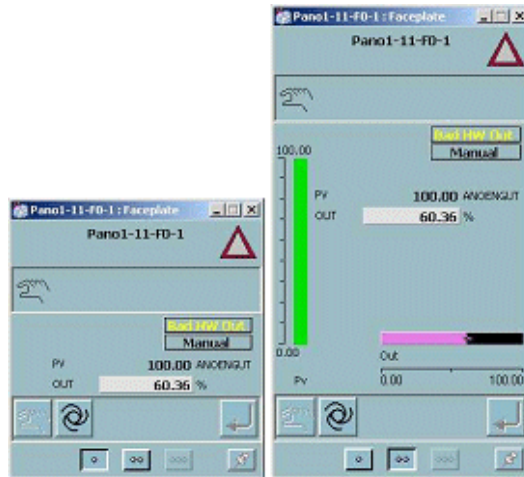

Figure 185. ANO Module
**Analog Output (ANO).** Analog output faceplates are representations of 800xA for DCI analog output tags. An ANO module reports the current input value, input range, engineering units, percent output, target manual output, alarm status and quality that are presented in these faceplates. Figure 185 shows the layout of the ANO reduced and normal sized faceplates and its attributes.